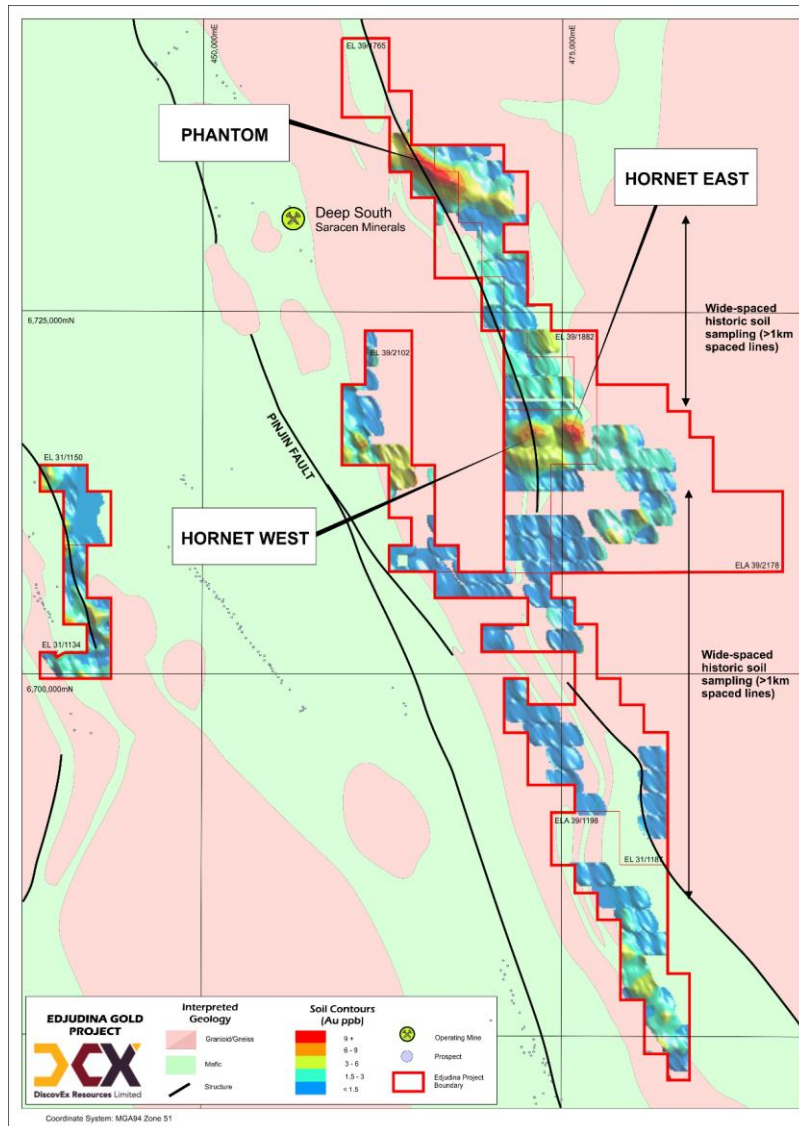

Figure 3: Edjudina Project showing contoured soils
Previous work on the Edjudina tenure, mostly during the 1980's and 1990's, included soil sampling, geophysics (both airborne and ground-based), air core (AC) drilling and minimal reverse circulation (RC) drilling. Several gold-in-soil anomalies were identified during previous exploration programs, in particular at two prospect locations, Hornet and Phantom (Figure 3). Both areas of soil anomalism were the subject of shallow AC drilling to blade refusal. Much of this exploration effort was undertaken at a time when the gold price was less than US\$300/oz and therefore the hurdles to mining were much higher than today, with gold prices currently around US\$1,700.